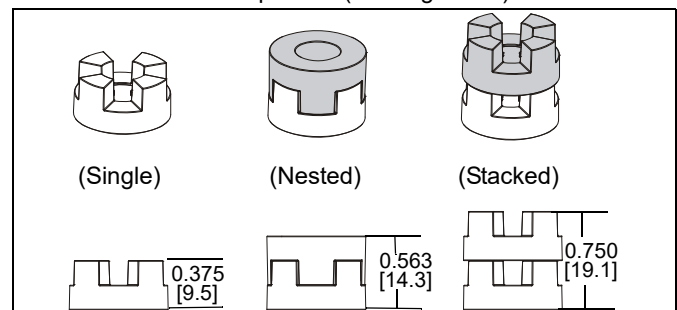

Figure 34
**NOTE:** The nesting spacers (TMA) may be used separately, or put two together in different configurations to create different size spacers. (See Figure 34)